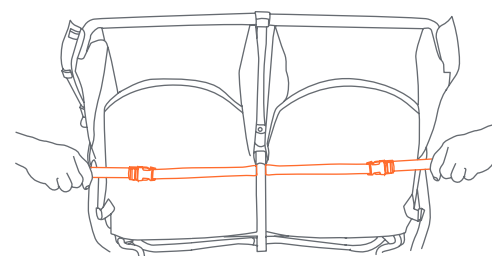

Fig. 17b
- Adjust the seat back to its most upright position (Fig. 17b) .